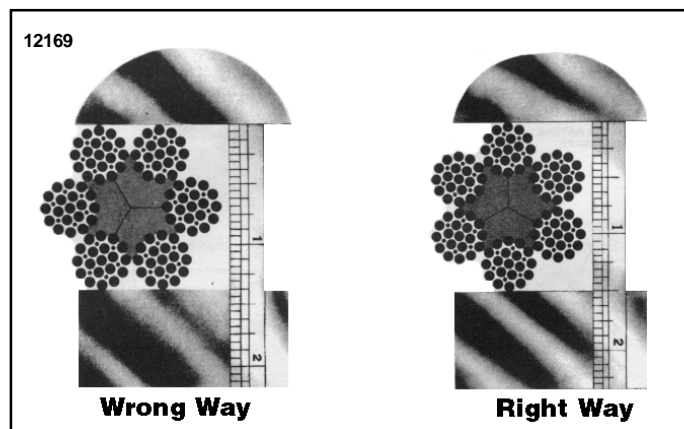

Figure 8-2. Correct Method of Measuring Rope
- (1) Reduction of rope diameter due to loss of core support, internal or external corrosion or wear of outside wires from nominal diameter of more than  $3/64$  inch (1.19 mm) for diameter to and including  $3/4$  inch (19.05 mm). Correct method of measuring hoisting rope is shown in Figure 8-2.